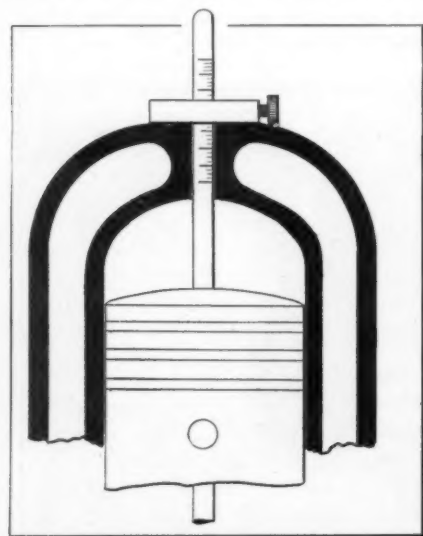

Fig. 1—Gauge used in testing the compression space in the motor
(1) A gauge which will be familiar to any one who has worked about a carpenter shop to any extent may be used to advantage in measuring the piston clearance of the cylinders. The gauge and the manner of inserting in the pet cock aperture are shown in Fig. 1. The motor is slowly turned over, and when the spindle has been pushed by the piston as far as possible through the cross piece of the gauge, which is held flat against the top of the cylinder, a reading may be taken off the spindle and the clearance of the piston plus the thickness of the walls and water jacket space will be given. A note is made of this reading or the gauge may be nicked at the point where the gauge registered with the cross piece. This can then be checked in the